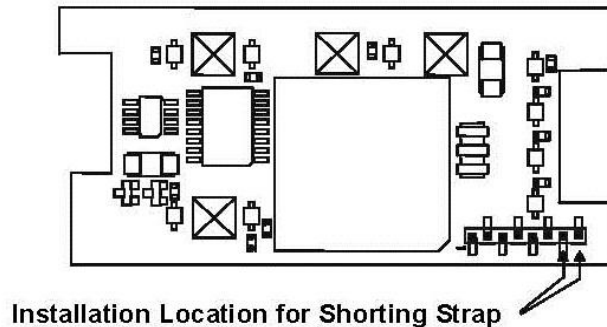

Figure 7, AP033 Logic Board
7. Adjust DC Bal (R36) on the probe tip (Figure 7) to obtain a DMM reading of 0 V $\pm$ 10 mV.